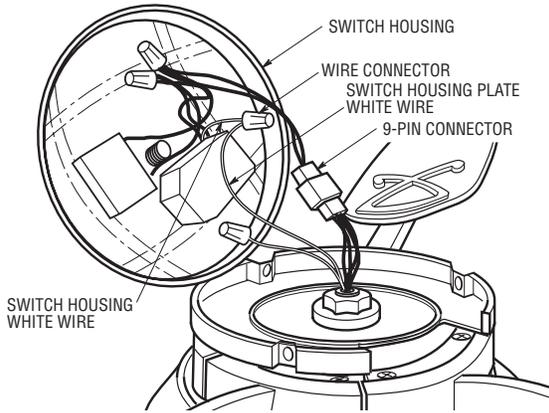

Figure 3
- 8. Connect the white wire from the switch housing plate to the white wire of the switch housing, using the wire connector previously removed (Figure 3).
- 9. Connect the 9-pin connector from the switch housing plate to the 9-pin connector of the switch housing (Figure 3).